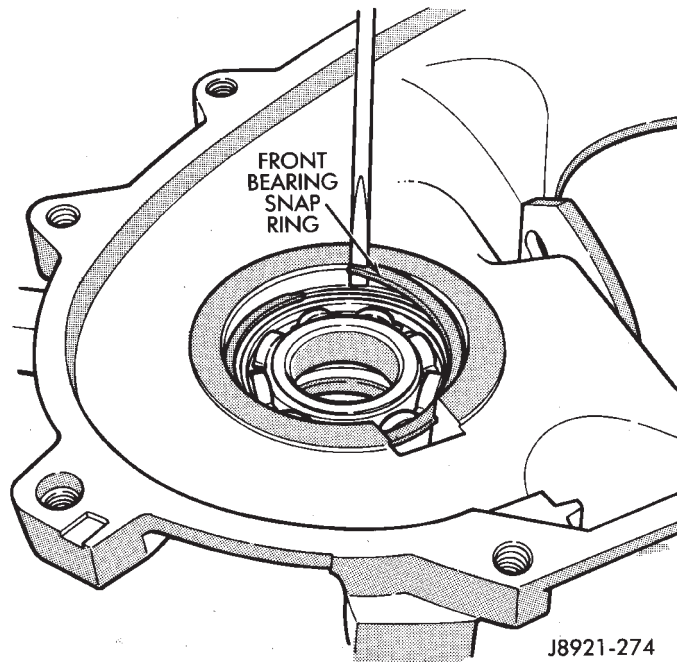

Fig. 48 Front Output Shaft Front Bearing Snap-Ring Removal
(1) Remove snap-ring that retains front output shaft front bearing in case (Fig. 48). Then remove bearing. Use hammer handle, or hammer and brass punch to tap bearing out of case.
(3) Install front bearing snap-ring (Fig. 48).